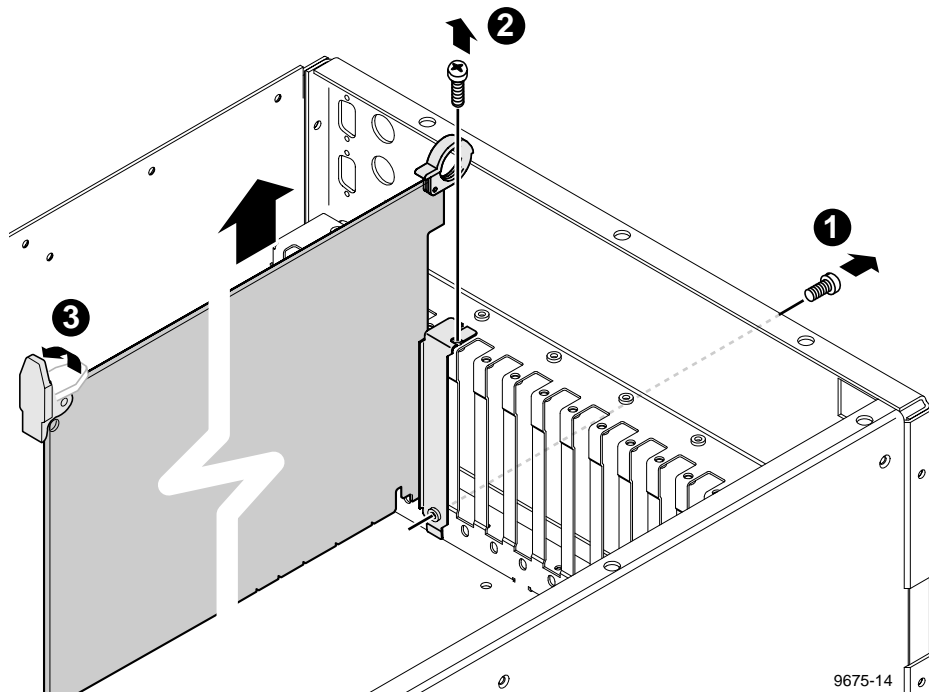

Figure 6-20. Removal of a Full-size Board
3. Use the Torx tool with the T15 tip to remove any screws that secure the board to the rear panel as shown in Figures 6-20 and 6-21. Note that not all boards use both screws.
4. Reinstall any boards removed (Figures 6-20 and 6-21 and pages 6-33 and 6-34).